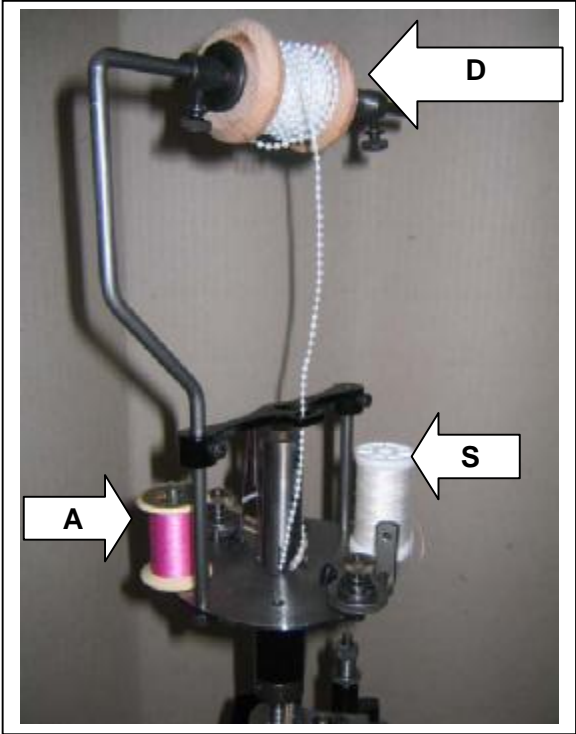
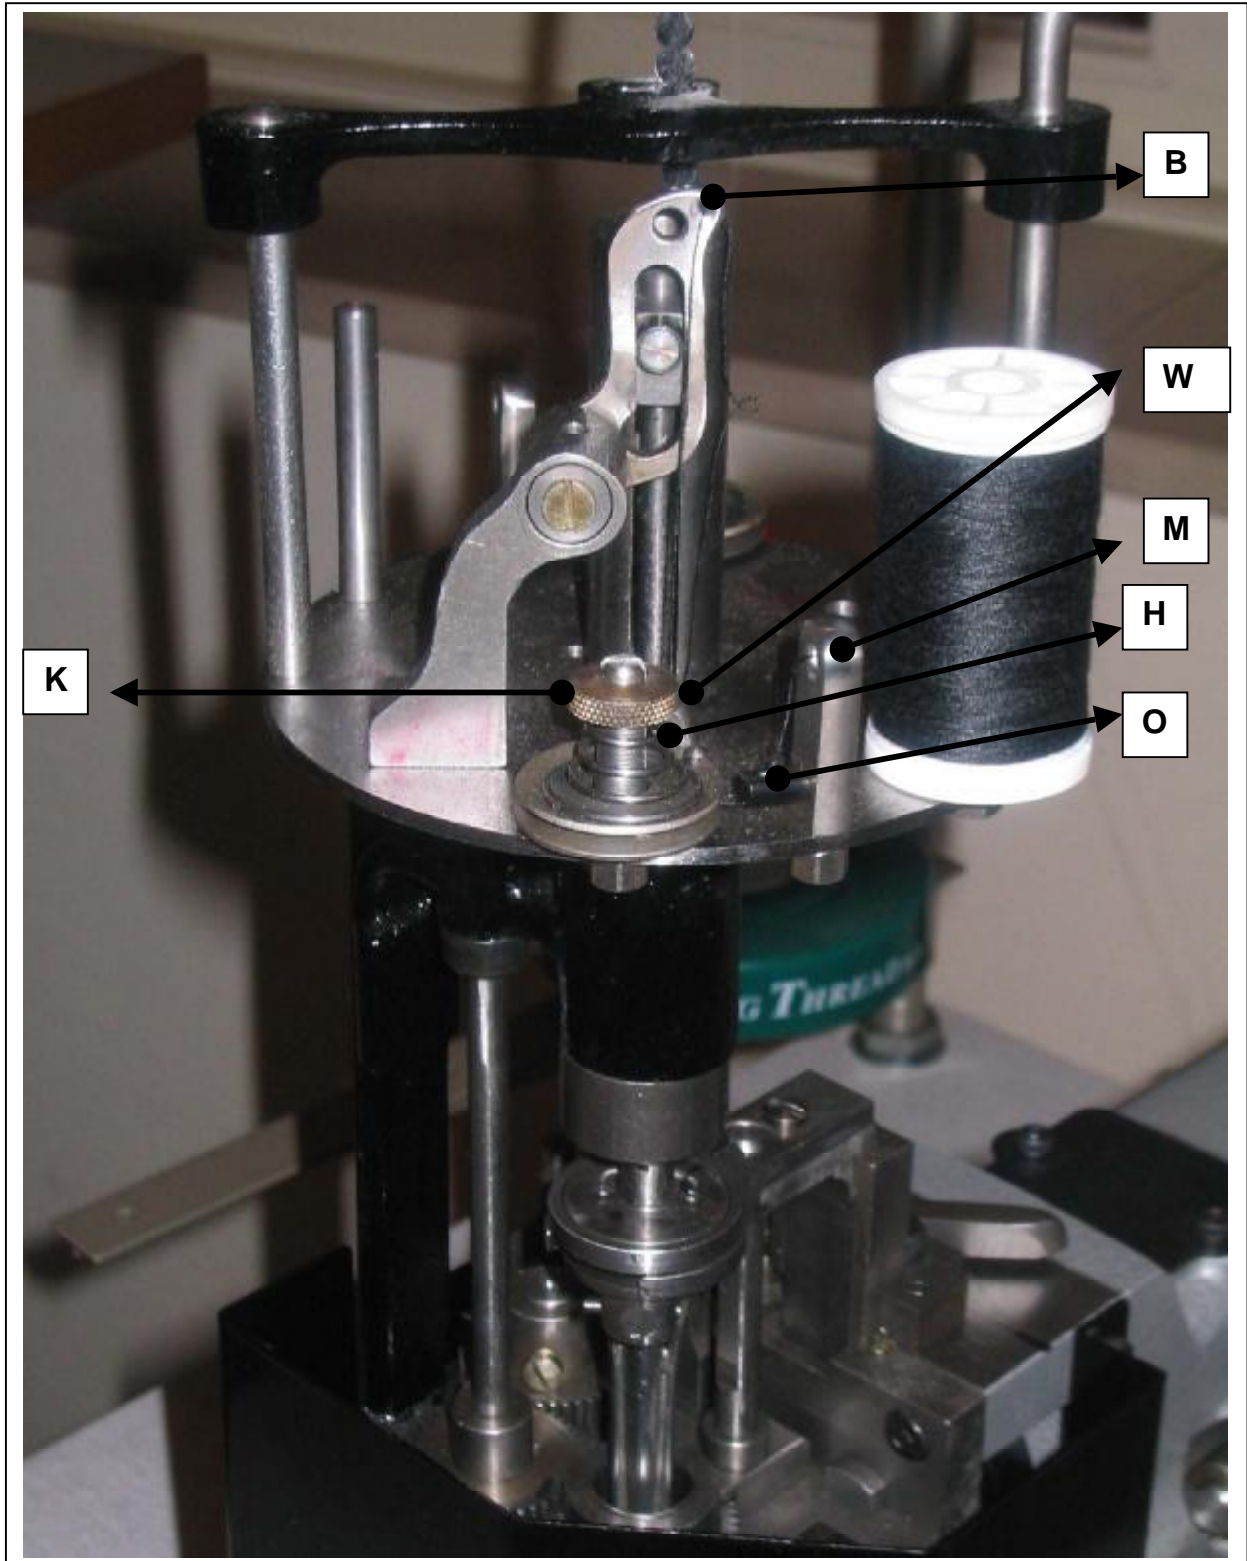

FIG. 10
Fig. 11
If you are working with such a needle, you have to put your needle thread on bobbinholder A at the right side while the crank is place in forward position. You also can put this on the bobbinholder S. (Fig. 10)
Put a spool of strong cotton and thread as shown through the holes M, O, H, B, W. (Fig 6 & Fig 11) Use the tweezers to thread the small holes and the twisted wire threader to take the thread down the small thread tube (W). Before pushing the threader down the tube, pull 30 cm between the tension K and the hole W so that the thread does not break during the threading down the tube. Also lower the pressure foot to take the threader out to the right more easily. Before this, tighten the thread into the threader wire so that it does not escape during the operation. Then thread the needle from 6 to noon.
THREADING OF SUPPLIES : If you are working with different supplies, for example : sequins, you have to put those supplies on spool D (Fig. 10). From there those supplies will enter the central threading through the adapted guide to arrive finally on the tissue.
Turn the crank at noon so that the slot R is facing the operator. The sequin spool D is on the upper spool holder. (Fig 10)
THREADING OF THE NEEDLE THREAD : The spool holders can have 2 bobbins A and S (Fig. 10), two tighteners : B, two tensions : K and the eye holes O-M-H-W. (Fig. 6 & Fig. 11)
If you are using **2 needles**, you have to use Bobbinholders A + S. (Fig 10)